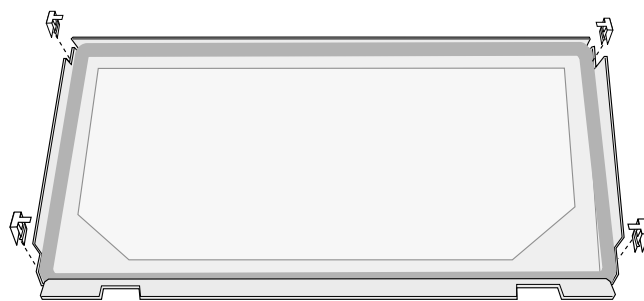

Figure 31. Use small pliers remove the four clips.
3. The glass panel is held in place by four compression clips. Use a screwdriver or small pliers to pry these up off the edge of the glass retaining walls. See fig. 31.